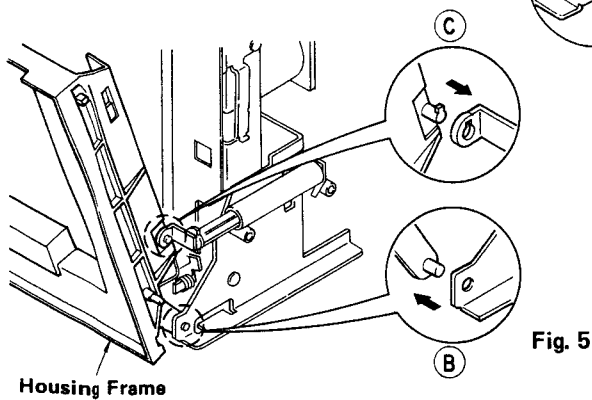

Fig. 5
- b. Remove one screw of (6) of Fig. 5, and remove Hook of (A) part.
- c. Remove Hook (B) & (C) parts of Fig. 5.